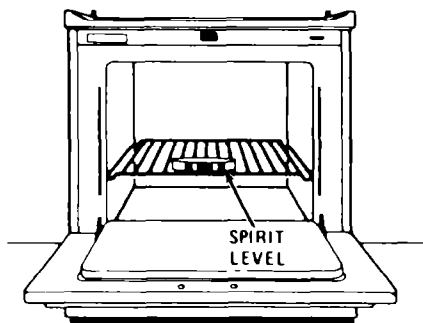

FIGURE 8
1. Move the range to its final operating position and check the level of the range by using a small spirit level on the oven rack. See **Figure 8**. The range can be leveled from side to side and front to rear by adjusting the four leveling legs.